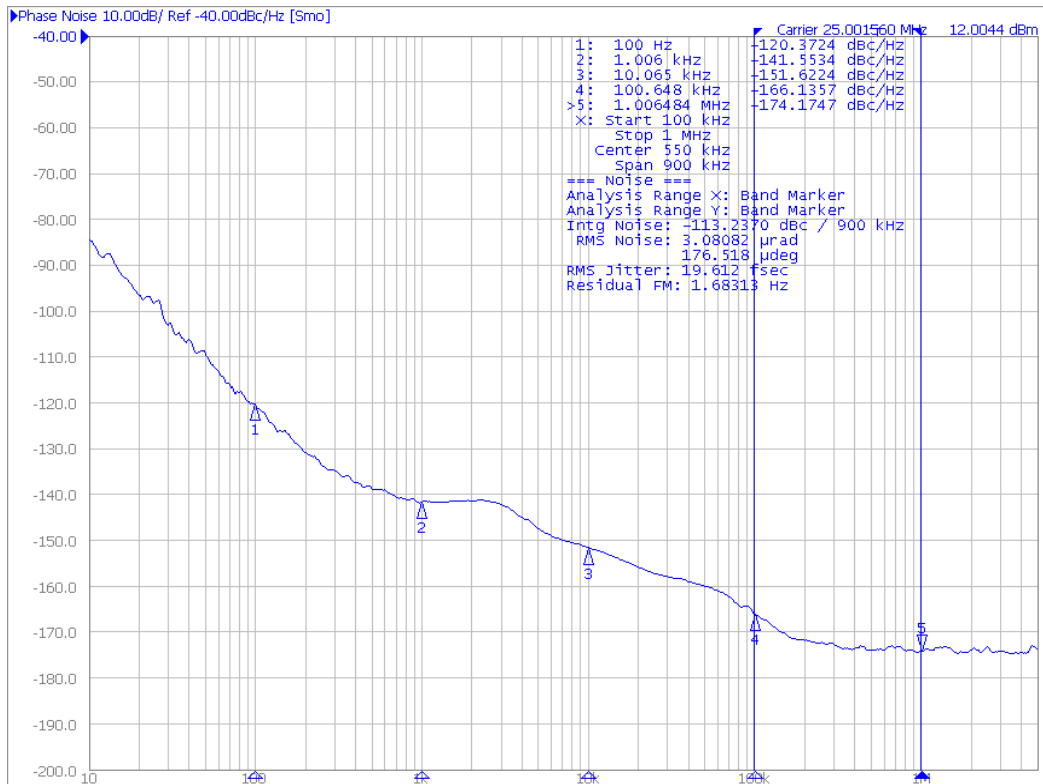

Figure 5. Typical Phase Noise Plot of the NB3H83905C Operating at 25 MHz $V_{CC} = V_{CCO} = 3.3 V$
4. Parallel terminated 50 Ω to V_{DDO}/2 (see Figure 5).